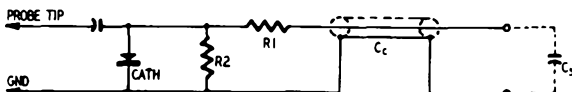

Fig. 109. Probe circuit RC time constant.
Building a probe is a compromise. While we want the values of R and C to be small, fixed values of cable and scope input capacitance are design limiting factors. Furthermore, R1 (in Fig. 109) cannot be made too small, since it will then permit r.f. to get into the scope. If the resistance of R2 is seriously decreased, the
*As seen in Fig. 109, the limiting factor in the ability of a crystal probe to display a modulation envelope on the scope screen is usually determined by the time constant of the scope input circuit, $(C_c + C_s) \times (R1 + R2)$. The total input capacitance $C_c + C_s$ charges through R1 and discharges through R1 + R2. Unless this charging and discharging can take place with sufficient rapidity, there will be negative peak clipping of the waveform displayed on the scope screen. The time constant can be reduced by decreasing the value of C_c . Cable capacitance C_c is usually much larger than scope input capacitance C_s . In a single time-constant interval, the cable can charge up to 63.2% of the peak value of a square wave or, having been previously charged, will be able to discharge in a single time-constant interval to 36.8% of the peak value of the initial charge.